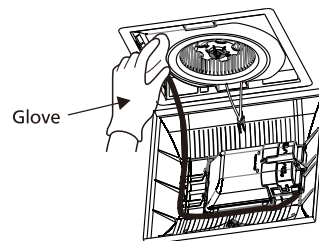

Fig.15
4. Using a cloth dampened with kitchen detergent, remove any dirt from fan body. Wipe dry with clean cloth. (Fig.15)